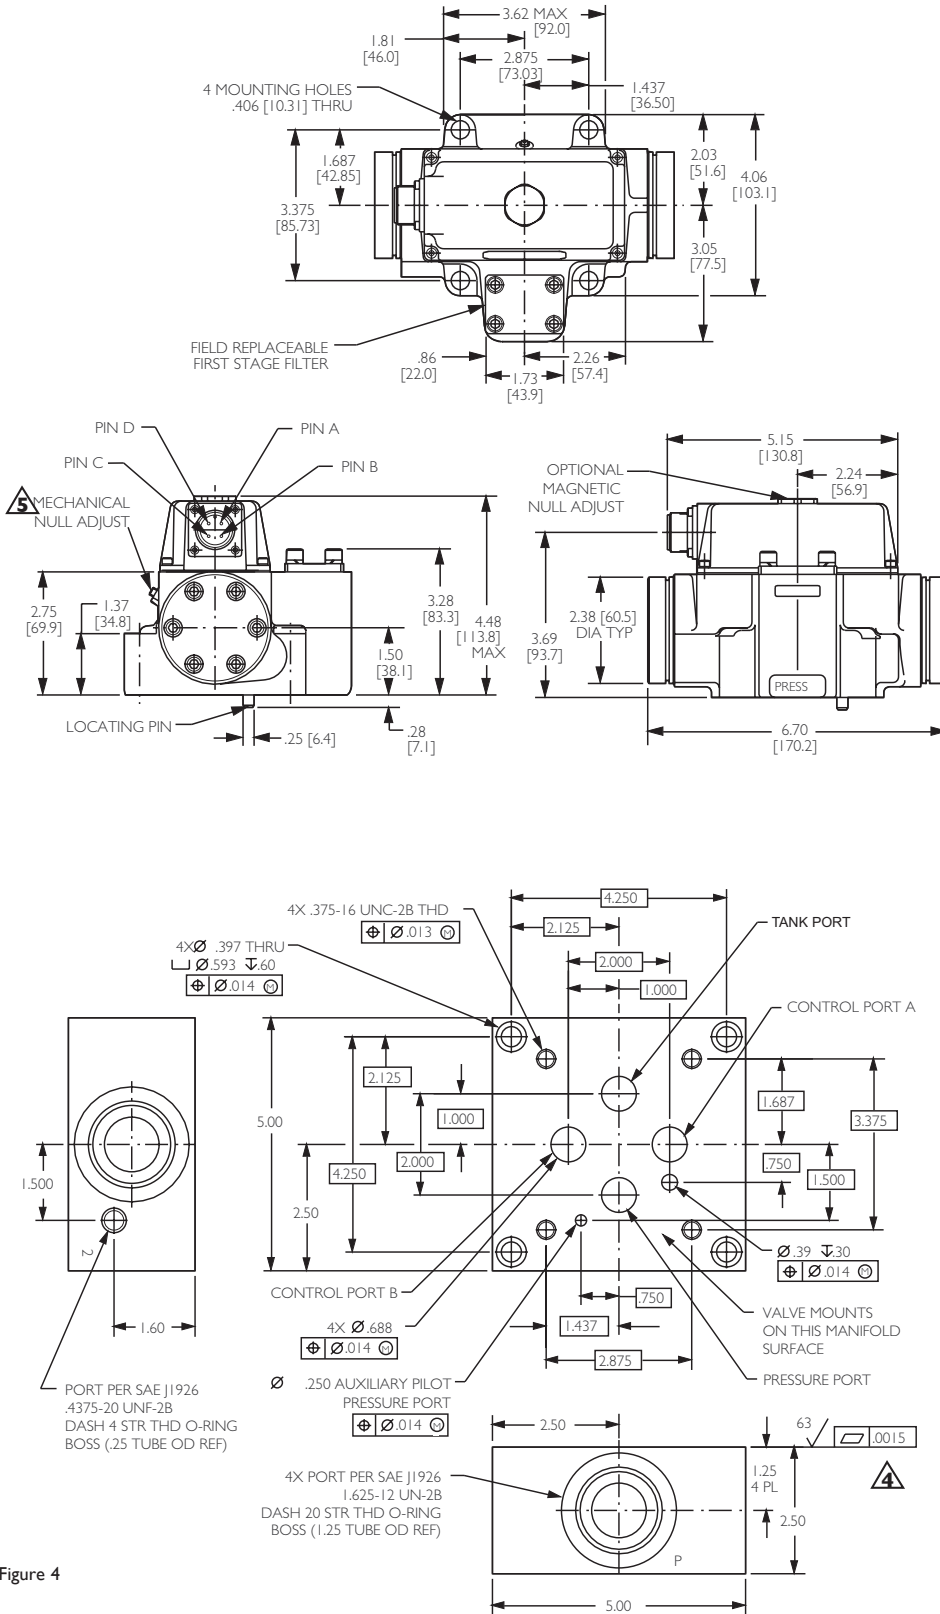

Figure 4
The Moog (G)72K series industrial servovalve may be mounted in any position, provided the servovalve pressure, control, and tank ports match respective manifold ports. The mounting pattern and port location of the servovalve is shown on Figure 4. The servovalve should be mounted with $3/8$ -16 x 2.00 inch long, socket head cap screws. Apply a light film of oil to the screw threads and torque to 175 inch-pounds. Wire mating connector for desired coil configuration and polarity. Thread connector to valve.